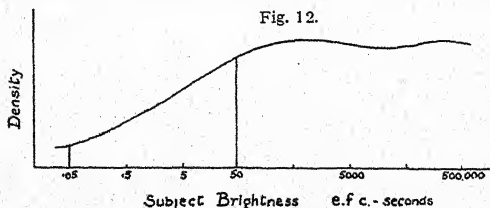

Fig. 12.
artificial lighting conditions. Fig. 11 is a poor specimen of a photograph of an even poorer subject, but it probably has more interesting parallels among archaeological subjects, and since it illustrates an extreme tone range is included here. The subject is a tunnel, only a few yards long, on a path leading from the Downs to the main road near St. Catherine's lighthouse. The walls showed, very conveniently, the minimum measurable luminosity of about 0.001 e.f.c., the distant sky, 400 and the distant meadows 50 e.f.c. In the resulting photograph, which was given an exposure of 2 minutes at  $f/3.5$  in order to render the detail of the tunnel walls, the distant view has hopelessly solarised, although as will be seen from the characteristic curve, Fig. 12, actual reversal does not even begin to set in until 10,000 times the threshold exposure has been given, and there is in any case no very marked reversal, owing to successive solarisation maxima, (3) even with at least 1,000 times more exposure than this. The tunnel walls, however, give a normal print (out of focus through the necessity for using open aperture) with detail just visible in the shadows, showing that the estimated luminosity was about correct, whilst obviously, apart from the actual measure-